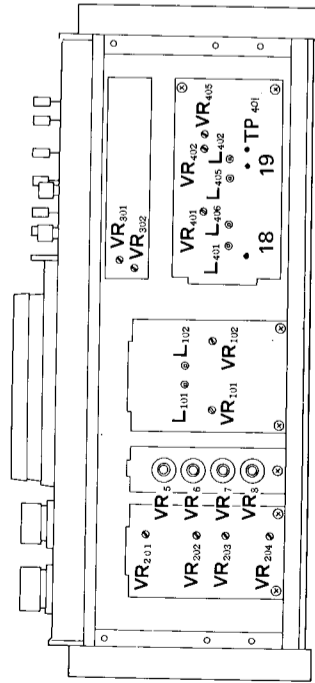

Fig. 17
8.1 PLAYBACK SENSITIVITY ADJUSTMENT (Fig. 17)
8.2 PLAYBACK EQUALIZER ADJUSTMENT (Figs. 17, 18)
8.4 BIAS OSCILLATOR AMPLITUDE ADJUSTMENT (Fig. 17)
8.5 BIAS-TRAP ADJUSTMENT (Fig. 17)
8.6 RECORDING BIAS ADJUSTMENT (Fig. 17)
8.7 ERASE HEAD DUMMY ADJUSTMENT (Fig. 17)
8.8 LEVEL METER CALIBRATION (Fig. 17)
8.9 RECORDING SENSITIVITY ADJUSTMENT (Fig. 17)
8.10 REC. AND P.B. FREQUENCY RESPONSE ADJUSTMENT (Figs. 17, 19)